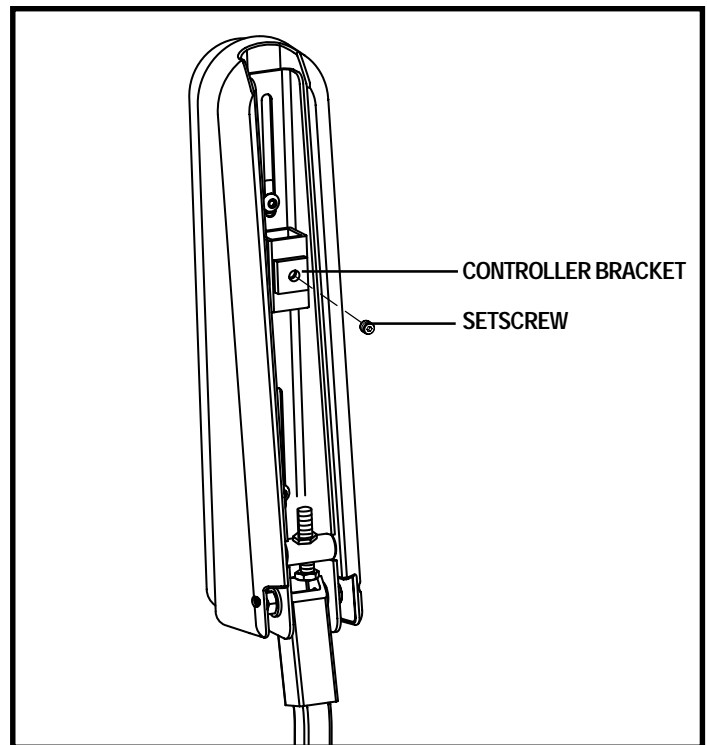

Figure 16. Controller Adjustment
2. Loosen the setscrew on the controller bracket. See figure 16.